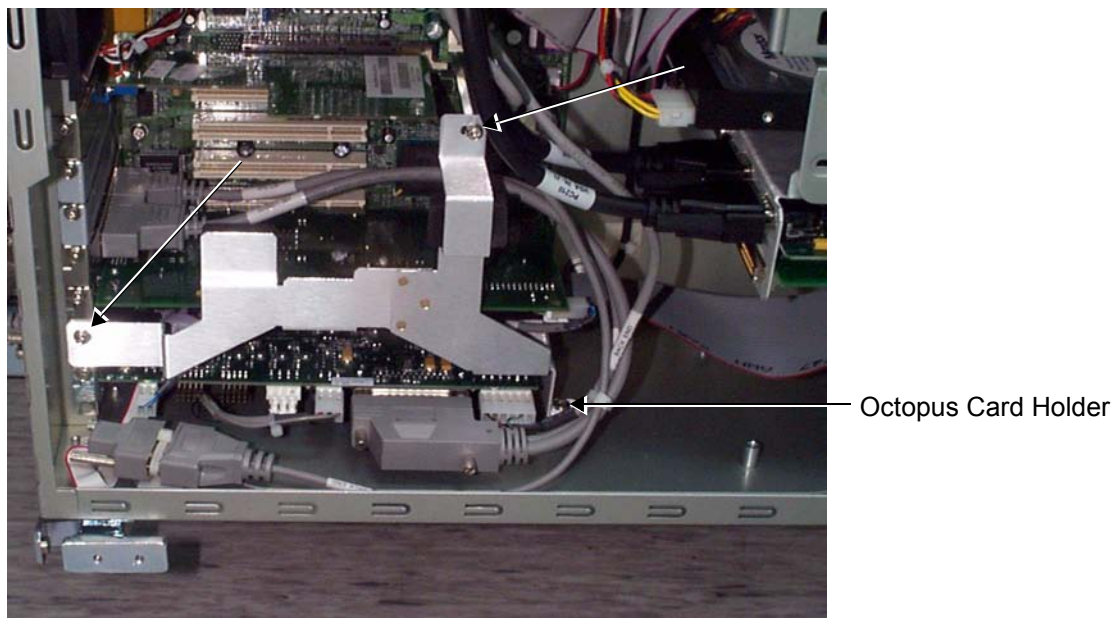

Figure 8-47 Octopus Card Holder - BEP2
- 1) Remove the three screws that secure the Octopus Card Holder in position as shown in Figure 8-47 below.
- 2) Return the three screws and tighten them to hold the Octopus Card Holder securely in position, as shown in Figure 8-47, above.